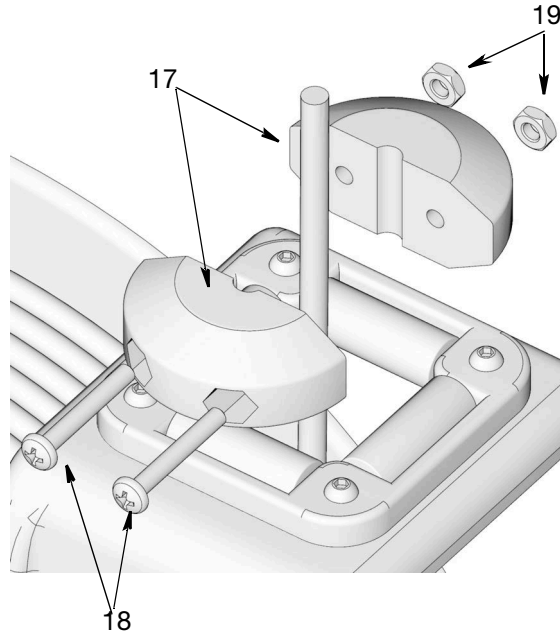

FIG. 4
5. Remove ball stop from accessory cord end and put all the parts in a safe place to reinstall on the new cord later (FIG. 4).
- a. Loosen and remove screws (18) and nuts (19).
- b. Separate two ball stop components (17) to remove from end of accessory cord.
7. While supporting the spool, loosen 34 mm hex nut (4) (FIG. 4).
15. Position the two ball stop (17) halves around cord. Insert screws (18) through ball stop and hand tighten nuts (19) to hold ball stop in place. (FIG. 4, page 12)